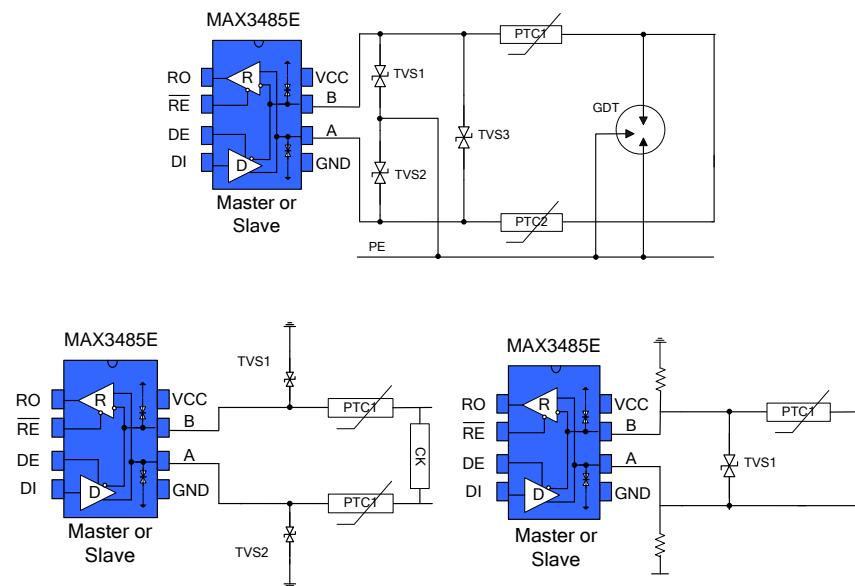

Figure 11 Port protection scheme
4.3 Bus port protection: in severe environment, RS485 communication port is usually provided with electrostatic protection, lightning surge protection and other additional protection, and even the plan to prevent 380V market electricity access is needed to avoid the damage of intelligent instrument and industrial control host. Figure 11 shows three common RS485 bus port protection schemes. The first is the scheme of three-level protection by connecting TVS devices in parallel with A,B port to the protective ground, TVS devices in parallel with A,B port, thermistor in series with A,B port, gas discharge tube in parallel to the protective ground; the second is the scheme of three-level protection by connecting TVS in parallel with A,B port to the ground, thermistor in series with A,B port, and varistor in parallel with A,B port; the third is the scheme of three-level protection by connecting AB with pull-up or pull-down resistor to power and ground respectively, connecting TVS between A & B, A or B port connecting thermistor.